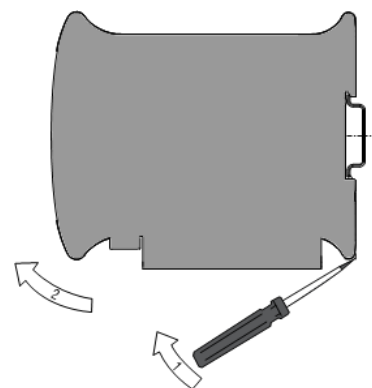

Fig. 5 Removing from the DIN-rail
3. Loosen the slide interlock by pushing it with the screwdriver in direction of arrow 1, then remove device from the DIN rail in direction of arrow 2 (Fig. 5).